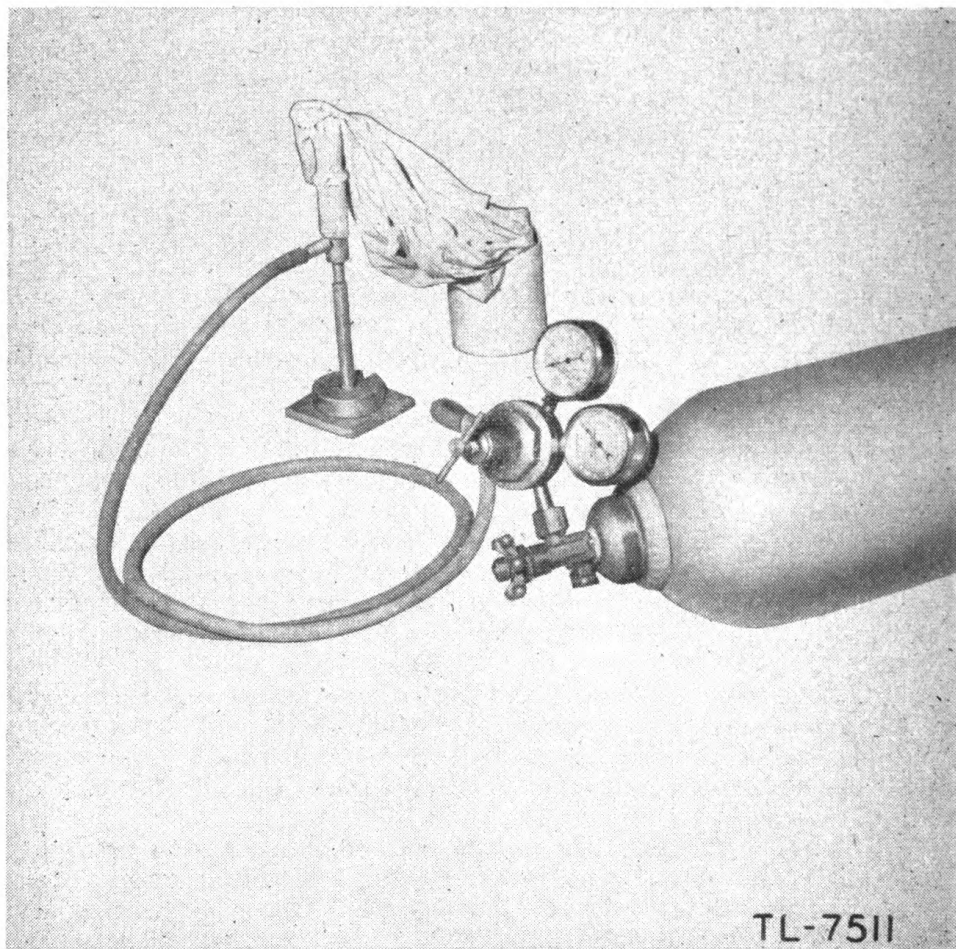

FIGURE 7. Inflation of sounding balloon.
c. PREPARATION OF SOURCES OF HYDROGEN. (1) *Preparation of hydrogen cylinder.* (a) Tightly attach Hose ML-81 (fig. 4①) to Coupling ML-49 (fig. 4④) or to Hydrogen Regulator ML-193 (fig. 7) if the regulator is used *instead* of the coupling. If the joint is loose, fasten a hose clamp, cord, or wire around it.
(4) Remove the balloon from the Cock ML-201-A. It is now ready for release.
10. Inflating Sounding Balloons (fig. 7)
b. Insert the vertical spout of Nozzle ML-196 into the neck of the sounding balloon while the balloon is still in its carton (fig. 7).
c. Attach Hose ML-81, already attached to the hydrogen cylinder (par. 7*c* (1)), to the other spout of the nozzle. This will prevent air from entering the balloon when it is unfolded.